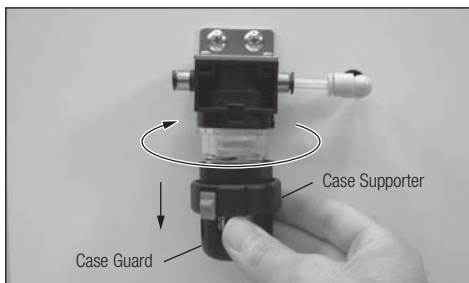

Fig. 28
- 2) Turn Case Supporter to the left and pull it down. (Case supporter and case guard are disconnected.) (Fig. 28)